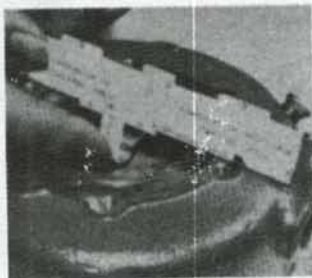

Fig. AC51B—Using Ensign gauge 8276 to set the fuel inlet valve lever to the dimension as indicated at (X) in Fig. AC51.
pressure side of the casting to the inside of the groove in the valve lever when valve is held firmly shut as shown in Fig. AC51B. If dimension (X) which can be measured with Ensign gauge No. 8276 or with a depth rule is more or less than $\frac{1}{2}$ inch, bend the lever until this setting is obtained.